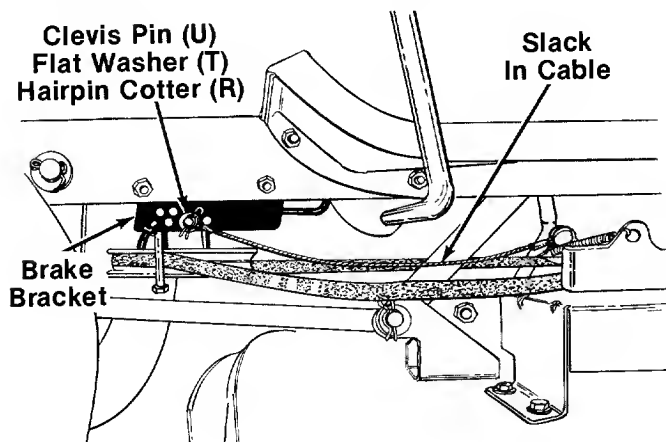

FIGURE 13.
- Pull the cable toward the front of the tractor and line it up with a hole in the brake bracket. Attach it to the bracket with clevis pin (U), flat washer (T) and hairpin cotter (R). There should be some slack in the cable as shown in figure 13.